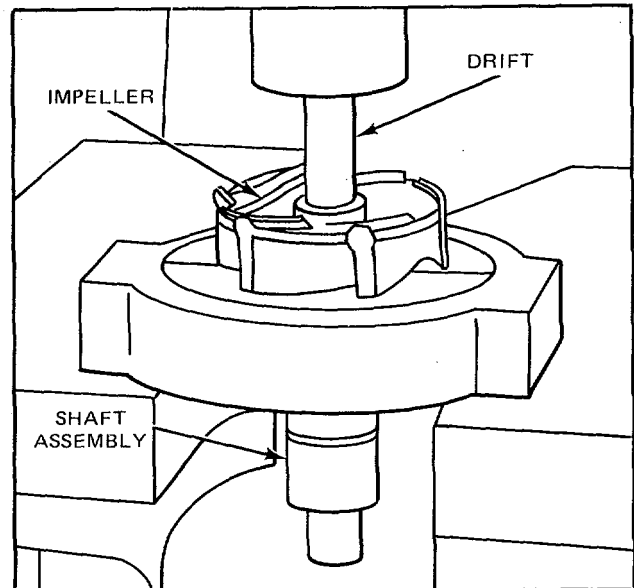

Figure 4. Removing Shaft from Impeller with Tools J 8329 and J 358-1
4. Press the end of the shaft out of the impeller as shown in Fig. 4, using plates J 8329 and holder J 358-1.